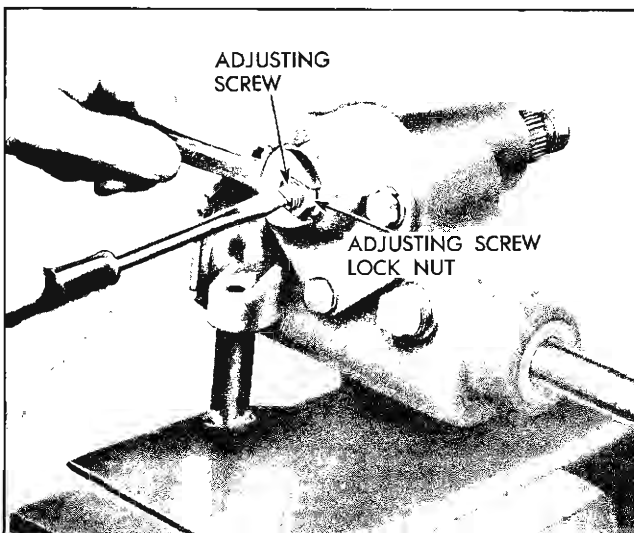

Fig. 9-15 Adjusting Pitman and Ball Nut Backlash
5. Loosen pitman shaft adjusting screw lock nut and back off adjusting screw a few turns (Fig. 9-15).